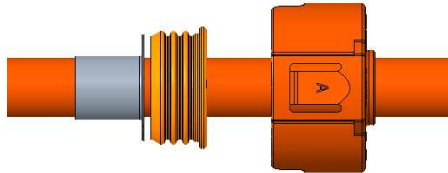

Figure 2: slide components onto cable before processing
Step 1/步骤一 In the order shown in figure 2, slide cover, single wire seal and shield sleeve onto cable sheath, keeping them out of crimping area.
按照图2所示的顺序, 滑动保护盖, 线缆密封圈和屏蔽套管到电缆护套上, 使它们不在压接区域。